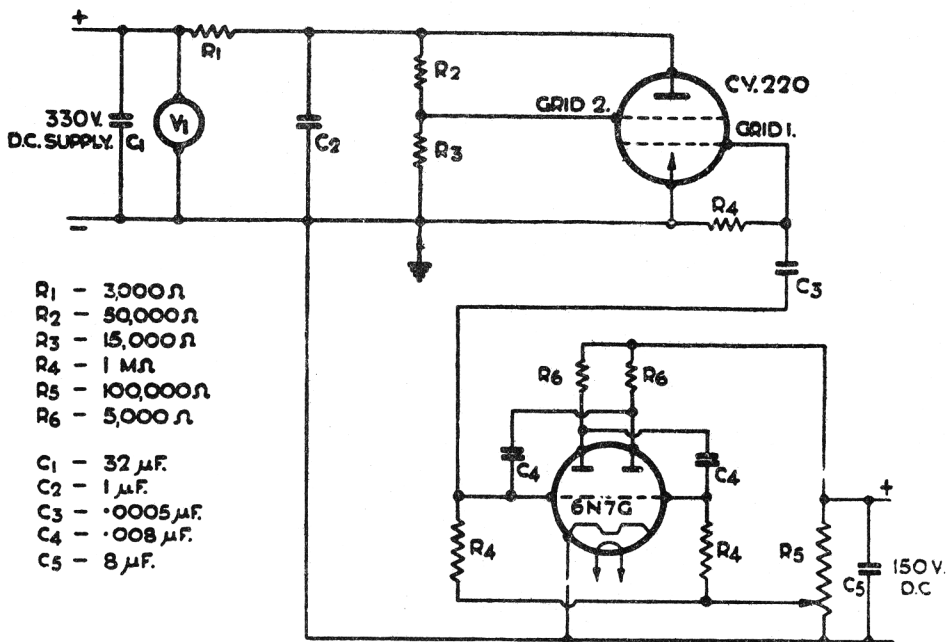

FIG. 1.
- A. Refers to D.C. supply voltage (across C1 in Fig. 1)